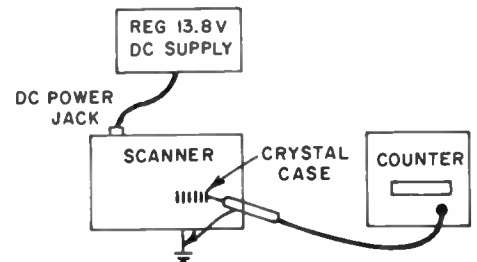

Figure 7—Test Setup for Crystal Frequency Measurement.
4. Connect the test equipment as shown in Figure 7.